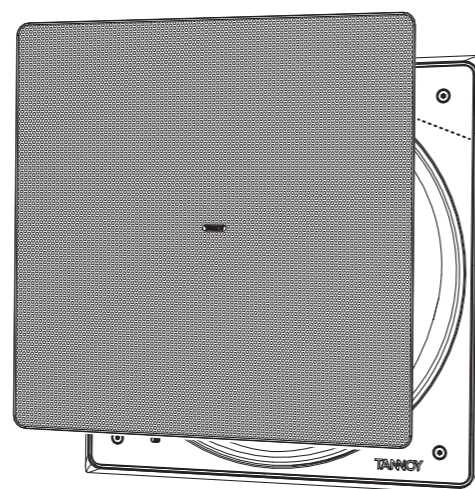

Fig. 11. Installing the Grille
1. The grille should be carefully fitted by lining up the edges of the grille carefully with the baffle and frame inside edges (Fig. 11). To avoid indentation damage, do not press the centre of the grille; apply even pressure to each corner as it is pressed firmly into position.